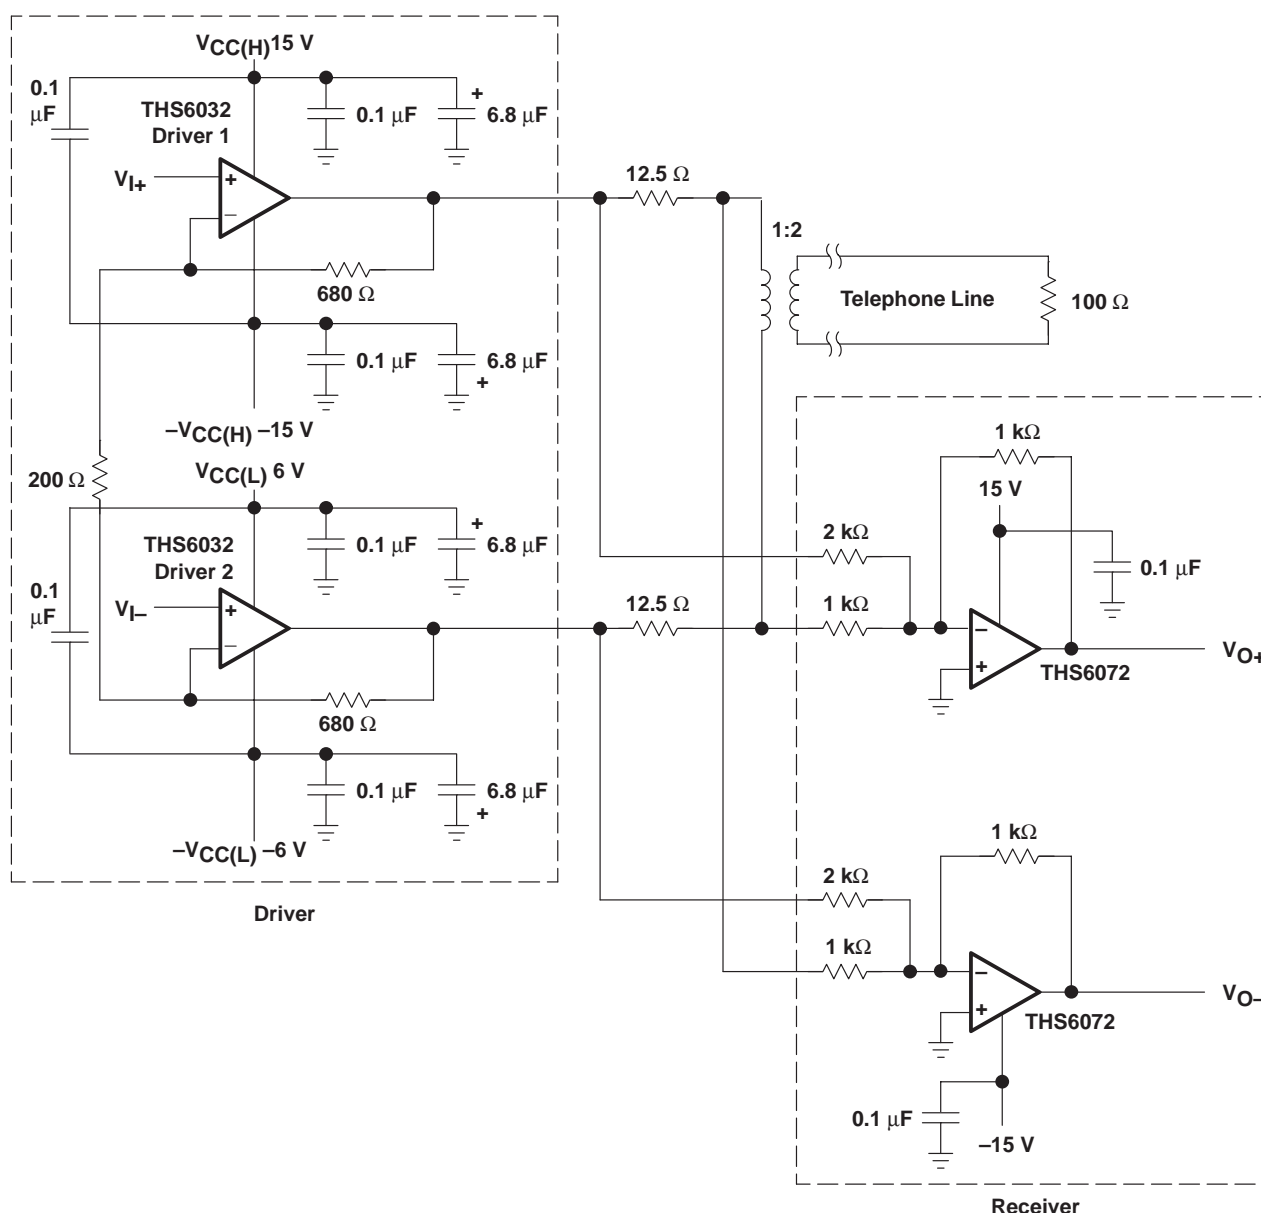

Figure 36. THS6032 ADSL Application
The THS6032 was primarily designed as a low-power line driver for ADSL (asymmetrical digital subscriber line). The driver output stage has been sized to provide full ADSL power levels of 20 dBm onto the telephone lines. Although actual driver output peak voltages and currents vary with each particular ADSL application, the THS6032 is specified for a minimum full output current of 400 mA at its full output voltage of approximately 11 V. This performance meets the demanding needs of ADSL at the central office end of the telephone line. A typical ADSL schematic is shown in Figure 36.
- Differential power supply decoupling – The THS6032 was designed for driving low-impedance differential signals. The 25 Ω load which each amplifier drives causes large amounts of currents to flow from amplifier to amplifier. Power supply decoupling for differential current signals must be accounted for to ensure low distortion of the THS6032. By simply connecting a 0.1- μ F ceramic capacitor from the +V_{CC(H)} pin to the -V_{CC(H)} pin, along with another 0.1- μ F ceramic capacitor from the +V_{CC(L)} pin to the -V_{CC(L)} pin, differential current loops will be minimized (see Figure 36). This will help keep the THS6032 operating at peak performance.
The THS6032 incorporates a shutdown circuit to conserve power. Traditionally when an amplifier is placed into shutdown mode, the input and output circuitry are turned off. This conserves a large amount of power, but the output impedance will be a very high, typically greater than several $\text{k}\Omega$. This situation does not allow for proper line termination resulting in a severe reduction of the receive signal coming through the transmission line (see Figure 36).